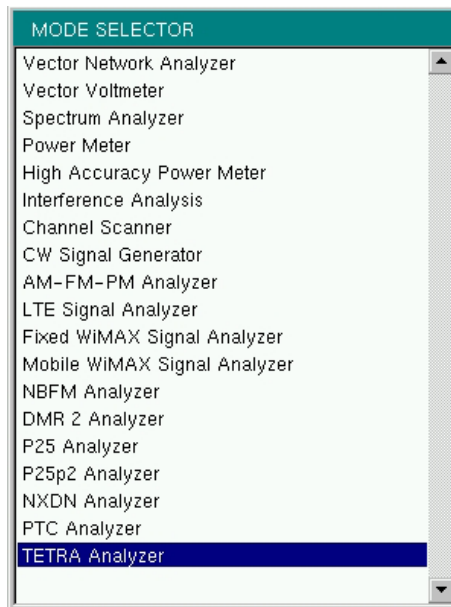

Figure 2-15. Mode Selector Menu
To access the functions under the Mode menu, press the **Shift** key, then the **Mode** (9) key. Use the directional arrow keys, the rotary knob, or the touch screen to highlight the selection, and press the **Enter** key to select. The list of modes that appear in this menu varies depending upon the options that are installed and activated in the instrument. Figure 2-15 is an example of the Mode menu. Your instrument may not show the same list. The current mode is displayed below the battery symbol.